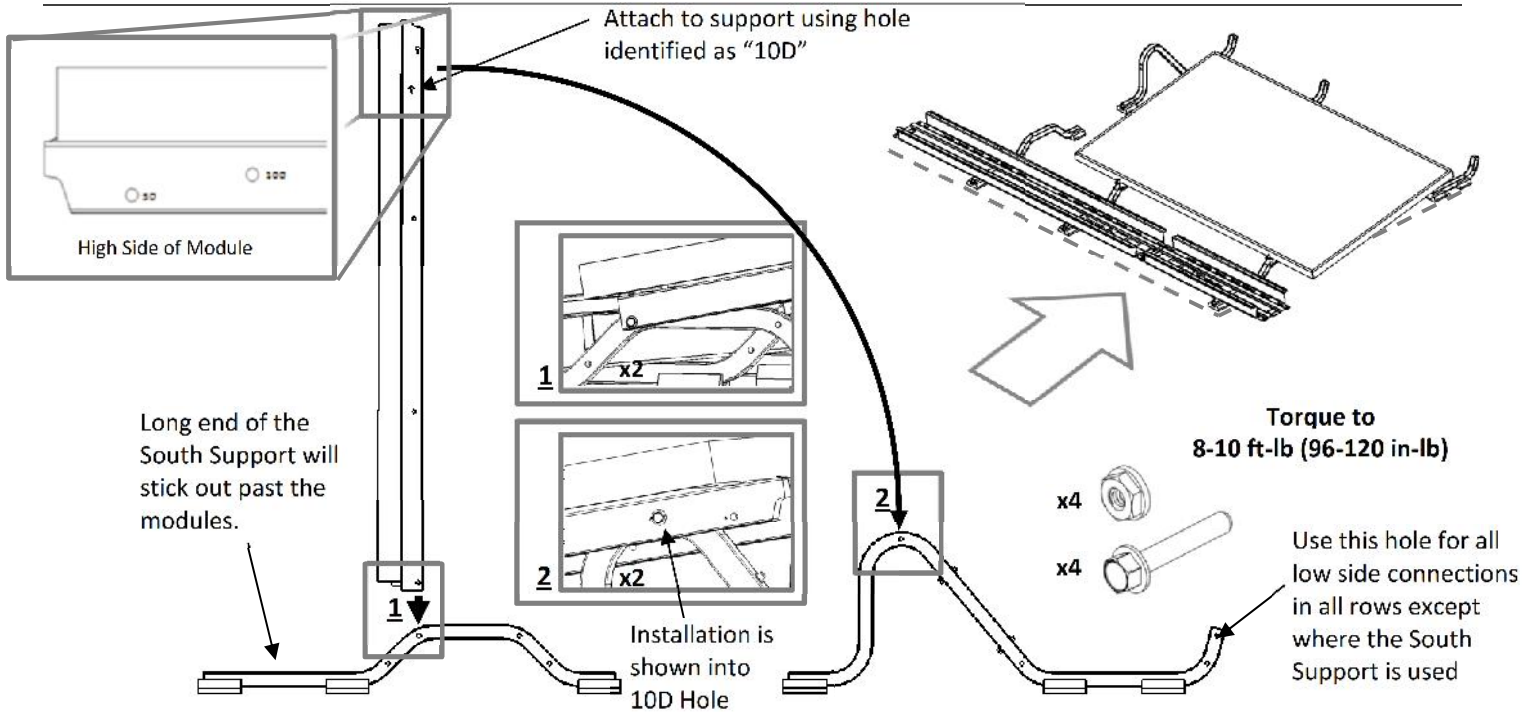

Figure 4 Attach Module to Supports
5. Follow Figure 4 to align Claws over the South Support mounting holes. Insert bolts through Claw and Support mounting hole. Finger-tighten nuts onto bolts.